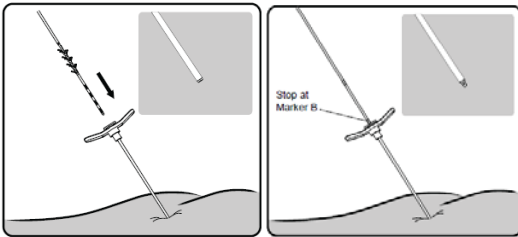

Figure 13. Insert the lead through the introducer sheath.
- Carefully insert the tined lead (with stylet) into the introducer sheath until visual marker B on the tined lead is aligned with the top of the introducer sheath handle. Confirm with fluoroscopy that all electrodes on the lead are proximal to the distal tip of the sheath (**Figure 13**).